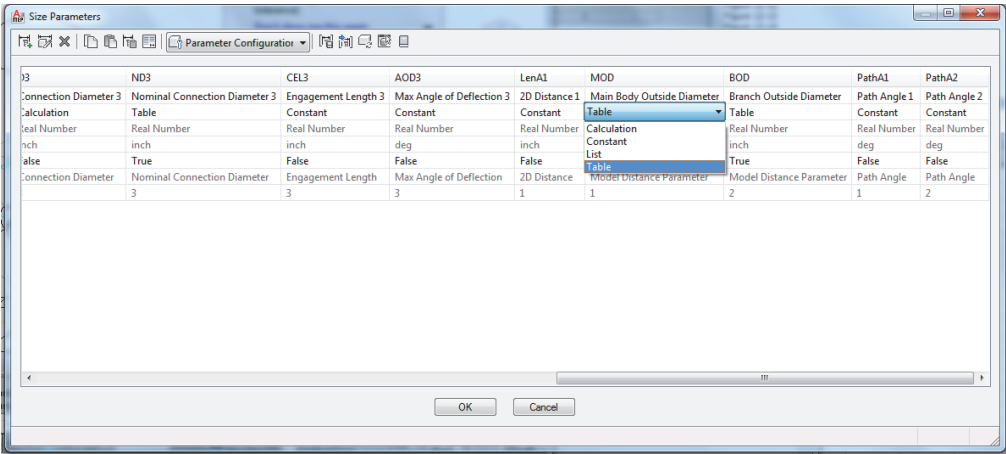

FIGURE 11.21
26. Change the Size Parameters back to Parameter Configuration and change the MOD and BOD to Table from Constant (see Figure 11.21).